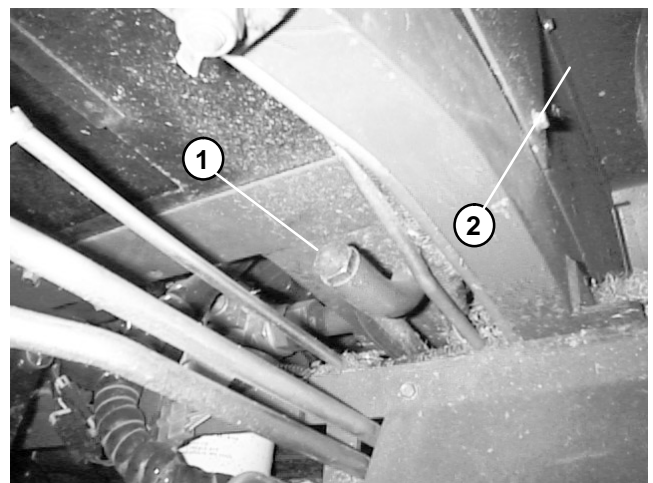

Figure 53
1. Open drain plug one-half turn and allow fluid to flow into drain pan until water is not noticed in hydraulic oil (Fig. 53).